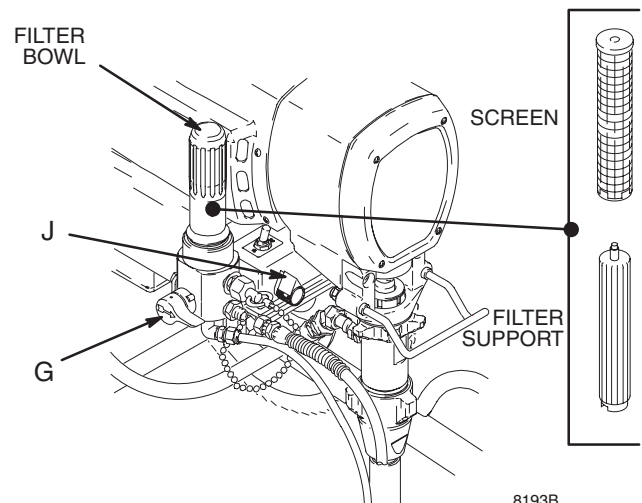

Fig. 8
1. Follow **Pressure Relief Procedure** on page 8. Engage gun safety latch. See Fig. 8.
2. Turn pressure adjusting knob (J) fully counter-clockwise to zero pressure.
4. Put suction tube into a grounded metal pail with 1/2 gallon of compatible solvent. Close pressure drain valve (G).